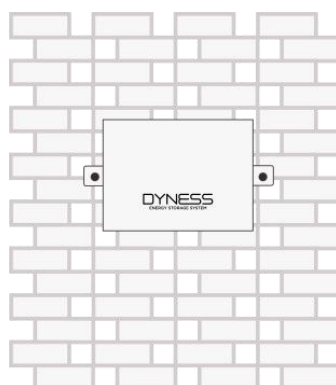

Figure 3-4
2. Fix LV-Link A to the wall with M6 expansion bolts, maintaining a torque of 9.8N·m, as shown in Figure 3-4.